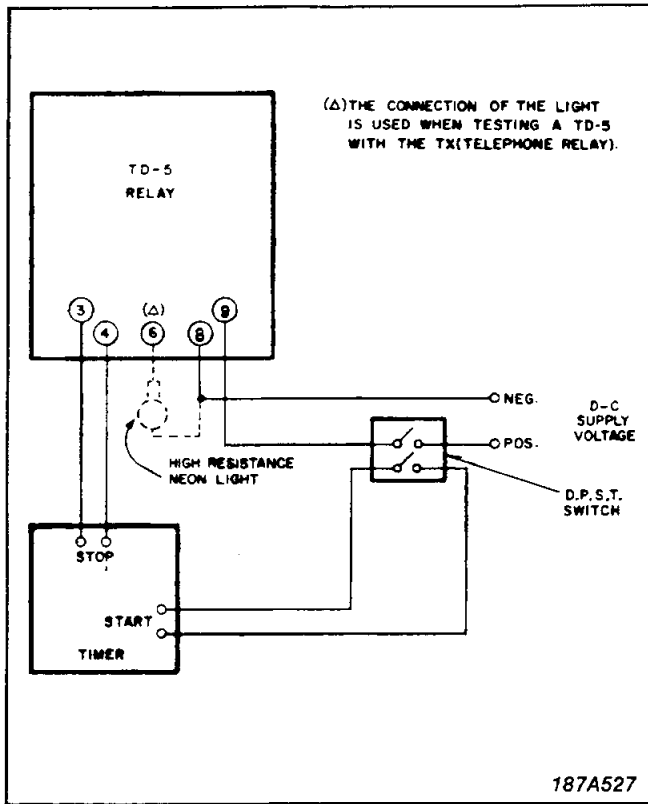

Fig. 4. Test Circuits for Type TD-5 Relay.
The first time delay, as measured with the test circuit shown in Figure 4, taken at  $25^{\circ}\text{C}$ . and rated voltage, will be within four milliseconds of its set-
A timing check at minimum and maximum settings is recommended to insure that the relay is in proper working order. A recommended test circuit is shown in Figure 4. When testing the TD-5 with a TX telephone relay make the dotted connection as shown in Figure 4. The neon lamp will light if the TX relay is operating properly.
2. Check the reference voltage circuit. This is done by measuring the dc voltage across the silicon power regulator, Z. Connect the dc voltmeter positive terminal to the rear terminal of  $R_S$  and the negative terminal to relay terminal 8. Apply rated voltage per the test circuit diagram, Figure 4. The Zener voltage should be between 11.0 and 14.0 volts for 24/32 volt relays, between 21.5 and 25.5 volts for 48/125 volt relays, and between 50 and 59 volts for 250 volt relays.